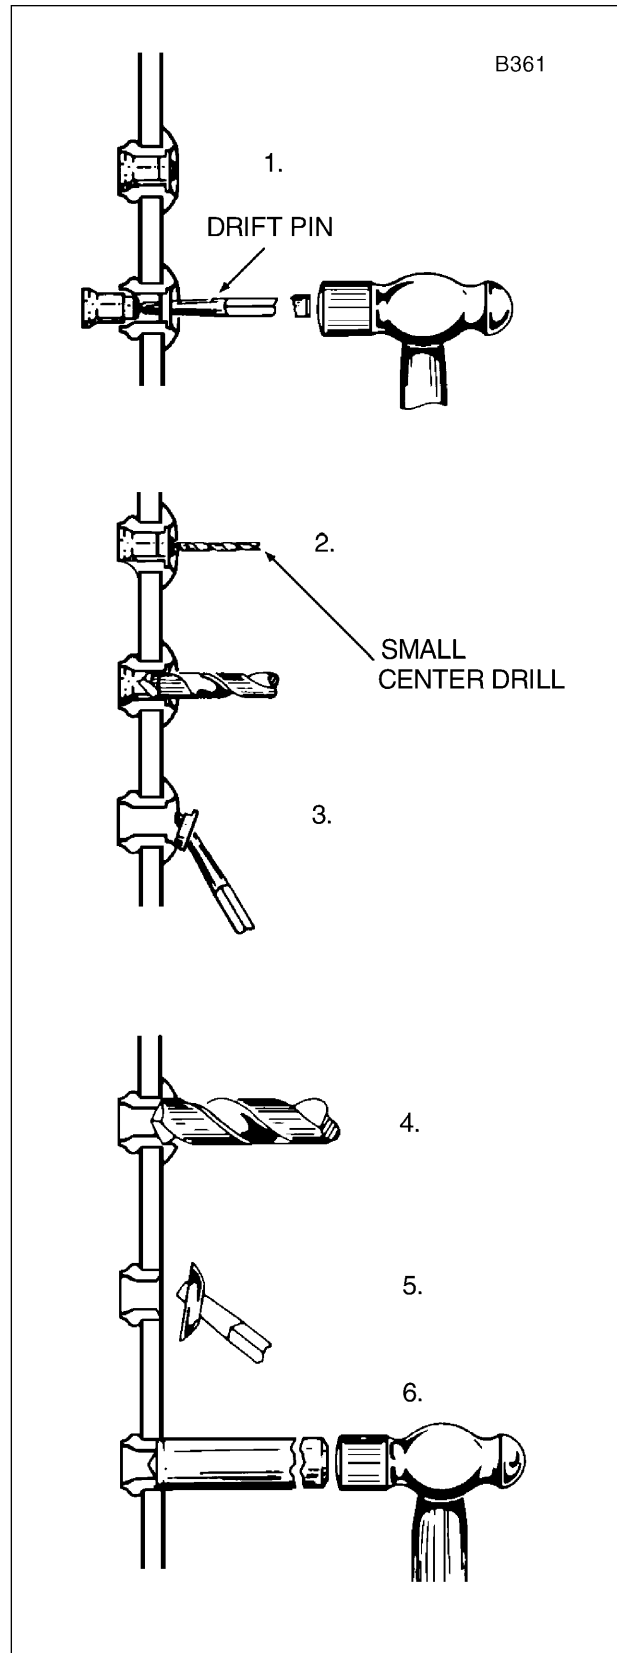

Figure 2-20. Cherrylock Rivet Removal
### 2-88. CHERRYLOCK RIVETS, REMOVAL (Refer to Figure 2-20.)
- a. To remove from thick material, use a tapered steel drift pin to drive out rivet stem. (See Figure 2-20, View 1.)
- b. To remove from thin material, drill away tapered portion of stem to destroy the lock. Use a small center drill bit on top of the rivet stem to provide a guide for a larger bit. (See Figure 2-20, Views 2 and 3.)
- c. Pry remainder of locking collar out of rivet head with a drift pin. (See Figure 2-20, View 3.)
- d. Drill almost, but not completely, through head of rivet. Use a drill bit the same size as the rivet shank. (See Figure 2-20, View 4.)
- e. Use a drift pin as a lever to break off rivet head. (See Figure 2-20, View 5.)
- f. Drive out remaining rivet shank with a pin having same diameter as rivet shank. (See Figure 2-20, View 6.)